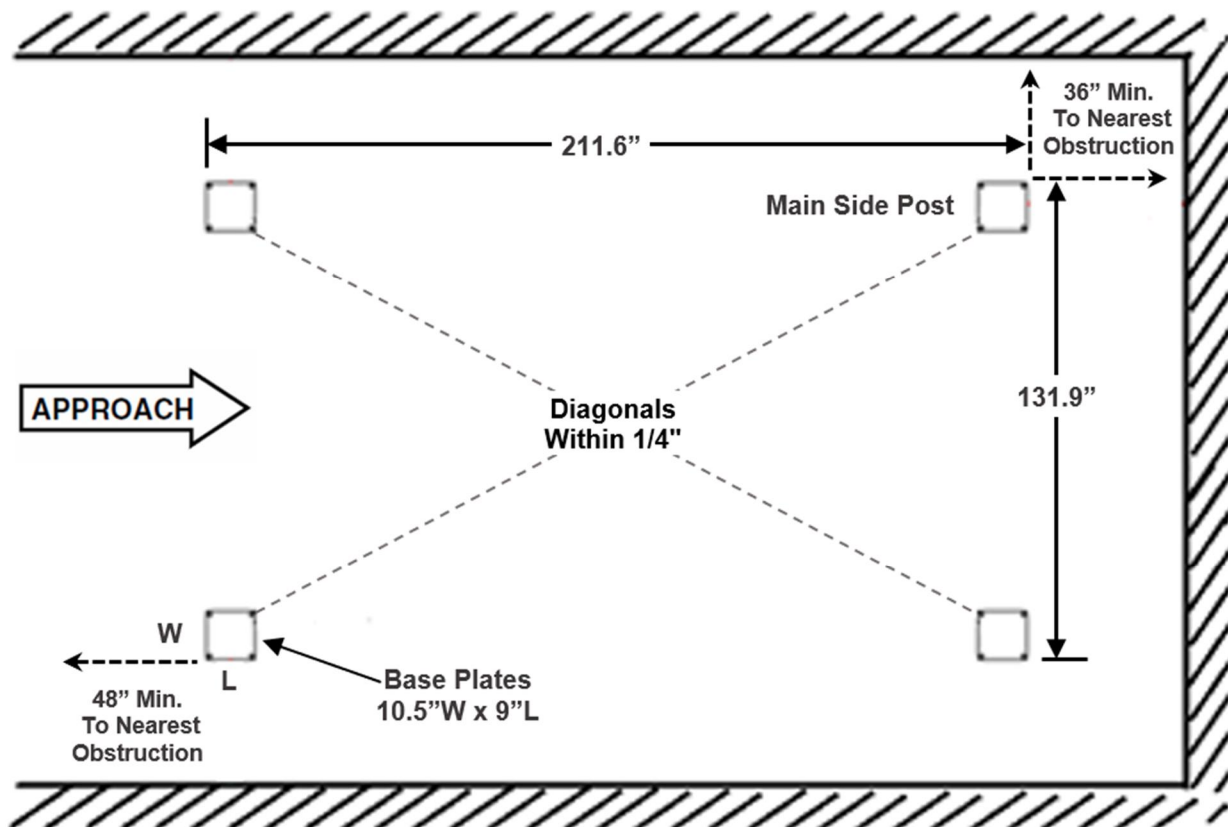

Fig. 3
- 2) Determine which end of the lift will be approach end, along with ensuring to leave adequate clearance around the lift's outer perimeter for safety clearance, as shown in Fig. 3. Ensure concrete floor is level & meets Foundation & Anchoring Requirements on Page 8.
- 3) Once a location is determined, mark locations with chalk line where lift posts will be positioned in bay. Fig 3. Ensure to determine drive-on approach direction, along with centering lift to bay door.
- 4) Double check all dimensions and make sure that the lift layout is perfectly square. Ensure diagonal measurements are within 1/4+to the inside of each post base plates. Fig 3.